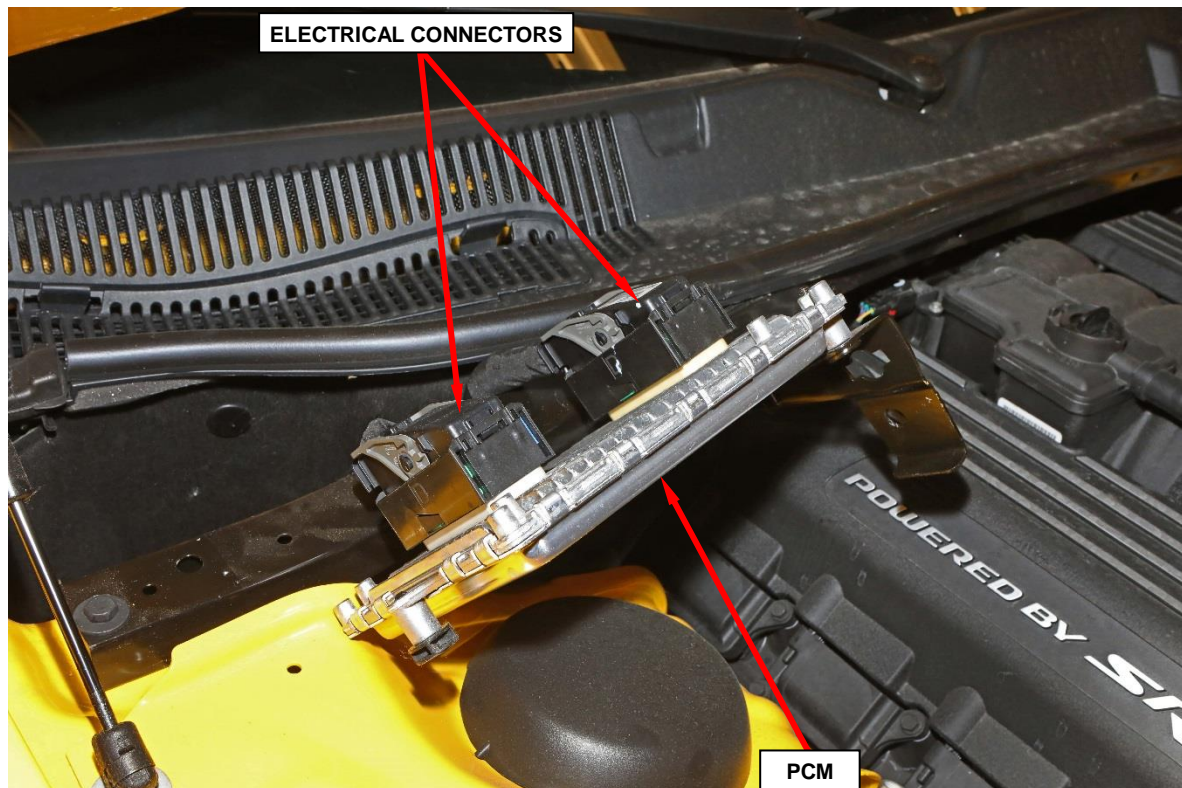

Figure 3 – Powertrain Control Module (PCM)
9. Disconnect the PCM electrical connectors (Figure 3).
10. Remove the production PCM from the vehicle (Figure 3).
11. Connect the PCM electrical connectors to the Demon Crate PCM (Figure 3).
12. Reconnect the vehicle battery. If equipped with an IBS, connect the IBS connector (Figure 3). Proceed to Section **B. Reprogram PCM**.
2. Disconnect the PCM electrical connectors from the Demon Crate PCM (Figure 3).
4. Connect the PCM electrical connectors to the production PCM (Figure 3).